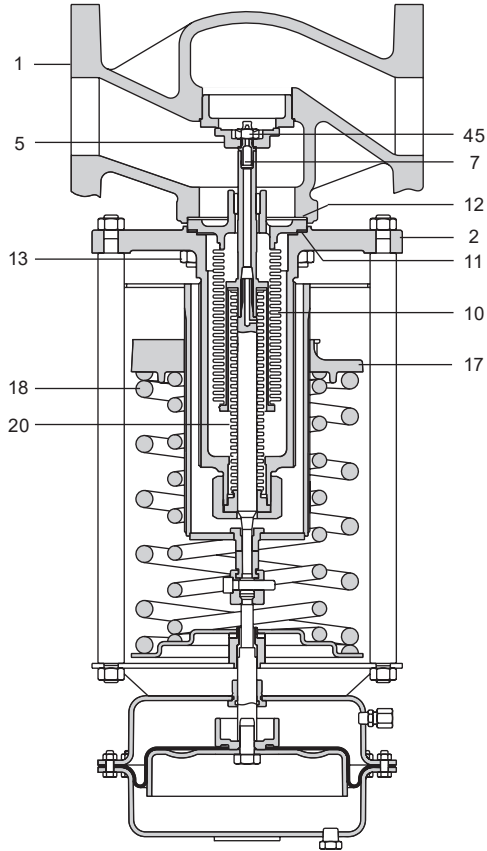

Fig. 12 DN65 to DN100
4.4.4 To renew balancing bellows assembly (Figure 12):